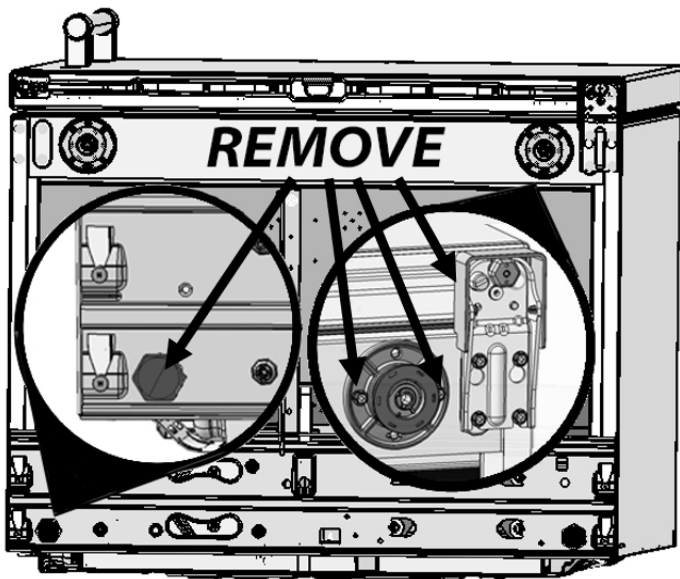

Figure 1
- Remove **both** rear leg levelers by unscrewing counterclockwise (Figure 1, left detail).
- Remove **both** front leg levelers by unscrewing the outer peg and two bolts on each front leveler with a 5/16" nut driver. Remove the hinge cover if installed (Figure 1, right detail).